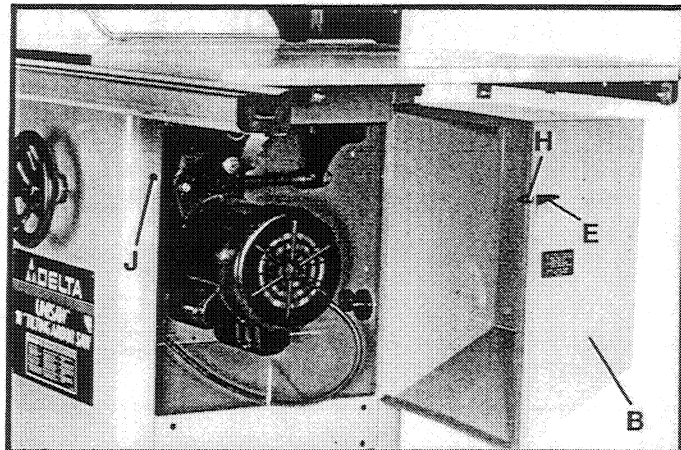

Fig. 53
4. With locking lever (E) Fig. 53, in the raised position, swing the free end of motor cover (B) toward the front of the cabinet until end (H) of locking lever enters and engages with the pre-drilled hole (J) in the cabinet.